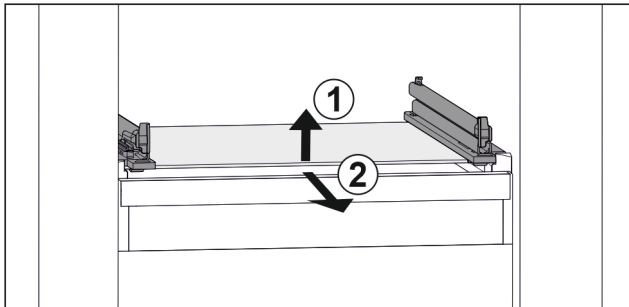

Fig. 92 Example illustration of glass shelf
- ▶ Lift glass shelf at the front. *Fig. 92 (1)*
- ▶ Take out glass shelf to the front. *Fig. 92 (2)*